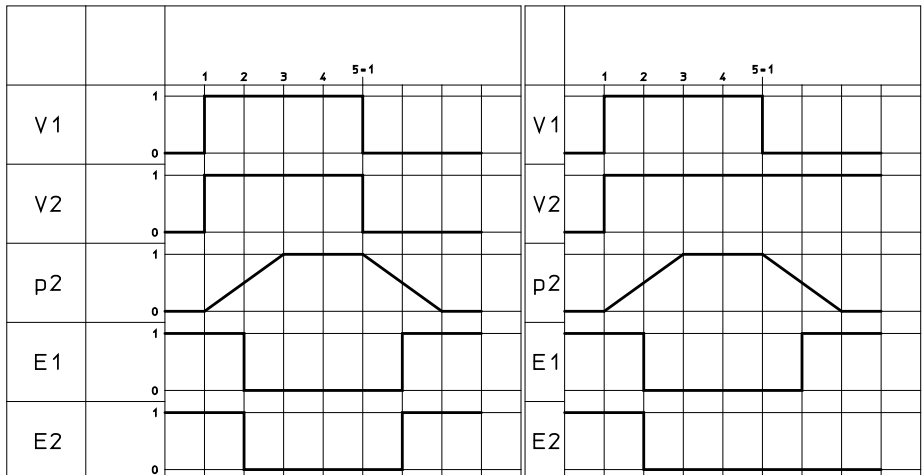
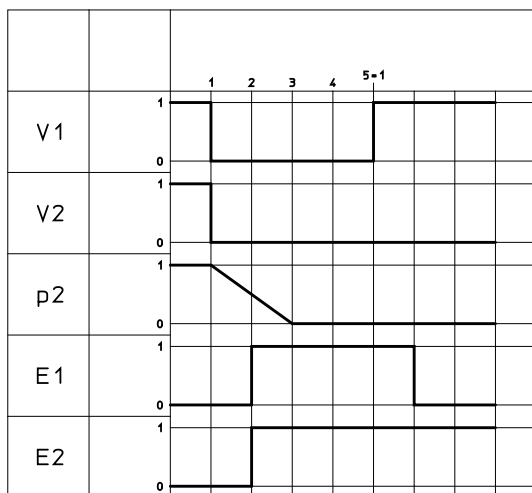

Fig. 8: Function test, steps 1 and 2
Fig. 11: Function test, step 7
3. To check all possible switching position combinations of the two 5/2-way solenoid valves V1 and V2 of the control block: evaluate signals of proximity switches E1 and E2 (here: PNP proximity switches) with the following step sequences (→ Fig. 8 ... → Fig. 11).